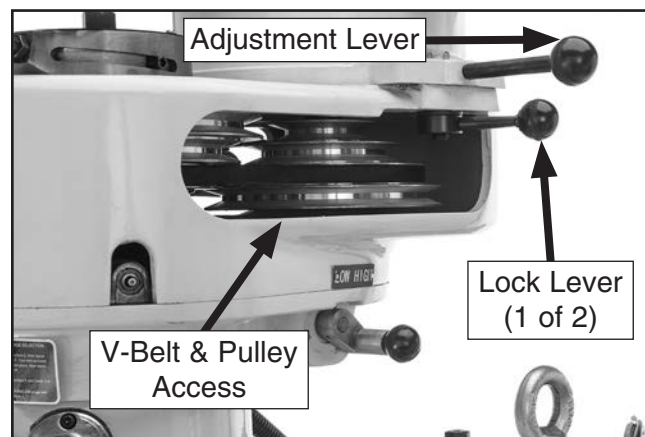

Figure 40. Model G0796 V-belt and pulleys exposed for setting spindle speed.
6. Remove belt housing side covers on either side of head to expose V-belt and pulleys, as shown in **Figure 40**.
7. Loosen two motor lock levers, one on each side of head, then pull belt tension adjustment lever forward to release V-belt tension (see **Figure 40**).
- Push adjustment lever backward with moderate force to re-tension V-belt, then re-tighten two lock levers to secure motor (see **Figure 40** on **Page 38**).